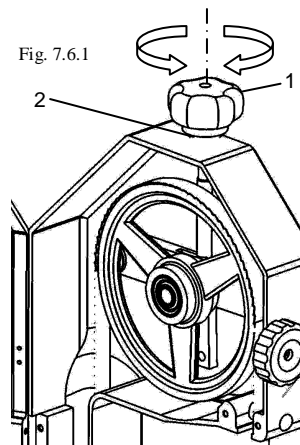

Fig. 7.6.1
7.6.1 - Blade adjustment (Fig. 7.6.1)